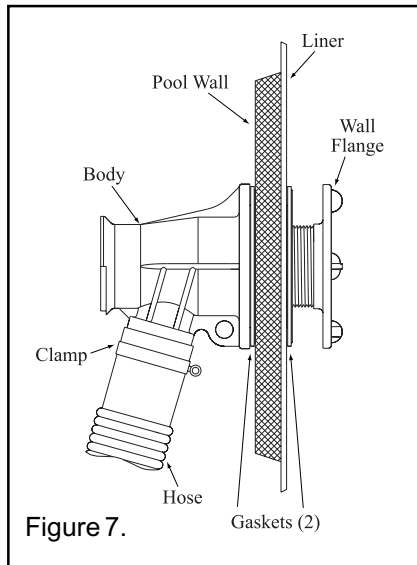

Figure 7.
14. Slip the return hose from the equipment, over the inlet port, and tighten the hose clamp securely; see Figure 7.